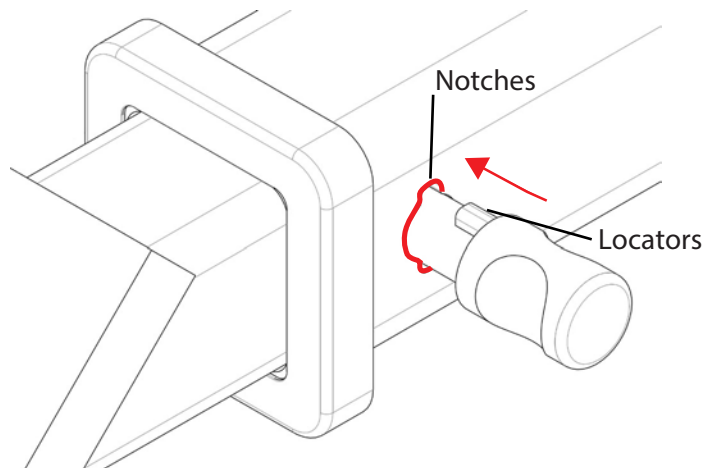

Fig 3. Silent Anti-Rattle Hitch Pin orientation
**Figs 3 remove
Insert HITCH PIN through hole in HITCHBOX and hole in TBM SHANK; ensure the LOCATORS are inserted into the NOTCHES in the HITCHBOX (Fig. 3).